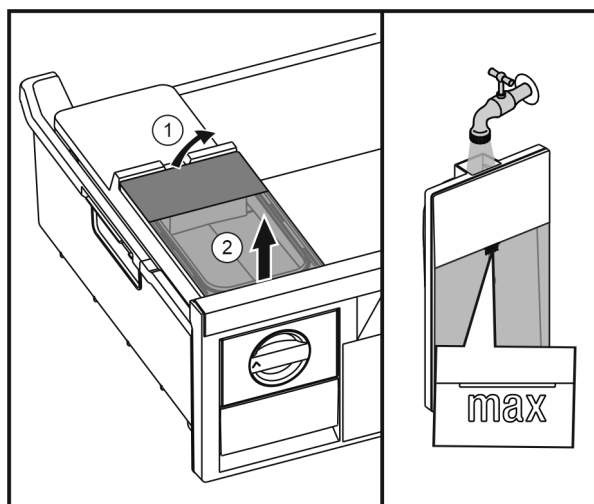

Fig. 26
- Lift up the water tank at the rear Fig. 26 (1) and take it out upwards Fig. 26 (2).